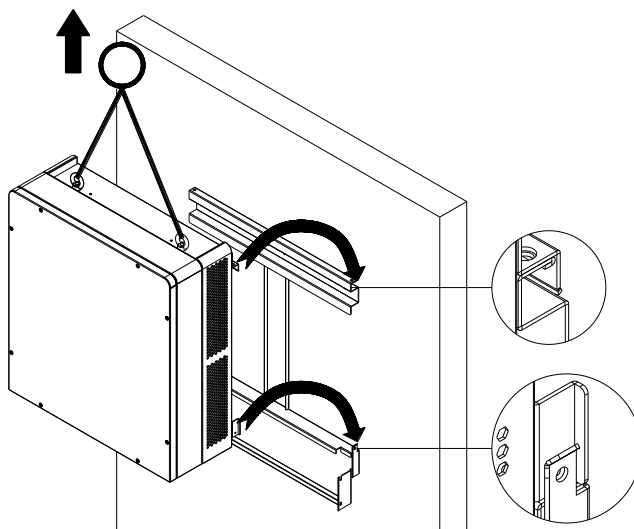
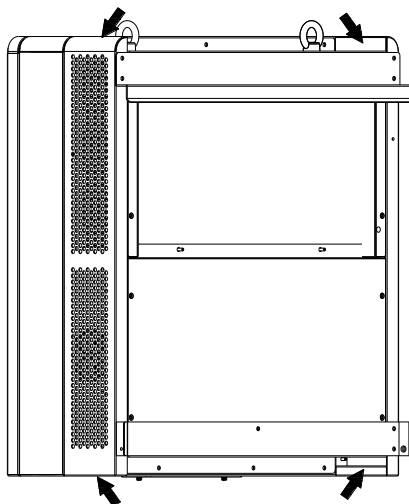

Figure 3-6 Mount the main housing on the bracket by lifting
Figure 3-7 Position of grab handle
(3) Hang the inverter onto the mounting bracket as shown in Figure 3-6 and Figure 3-7;
Manual mounting: Two people grab the handle positions marked in Figure 3-7, and mount the inverter onto the bracket.